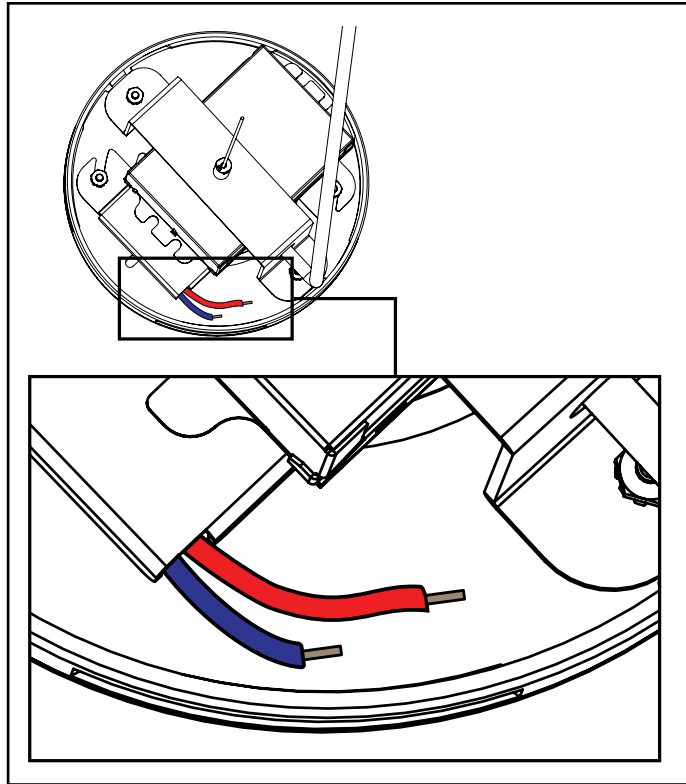

Figure 21
9. Route the Low voltage wire routing (LED wires) from the **Driver Enclosure (D)**. (Figure 21)